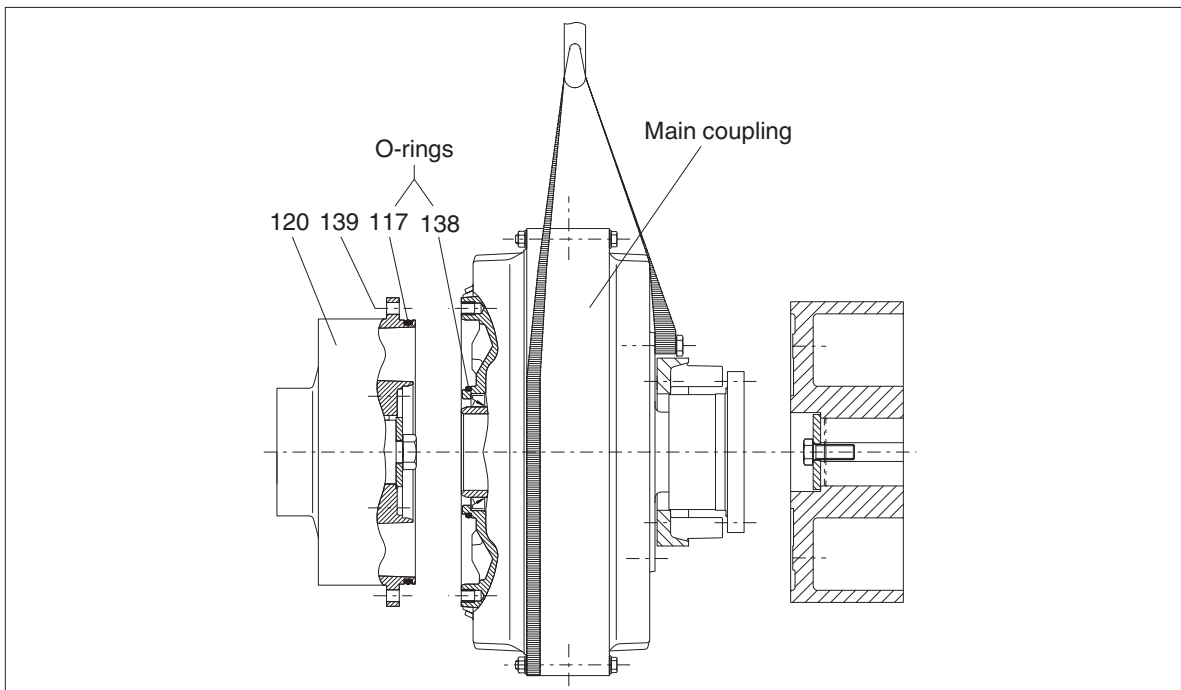

Fig. 12: Disassembling the FLUDEX coupling -b
The axial space thus obtained is sufficient to detach the main coupling axially from the hub-carrier part (120) and demounted radially. At the same time care must be taken that the O-rings (117; 138) are exposed (see figure 12).